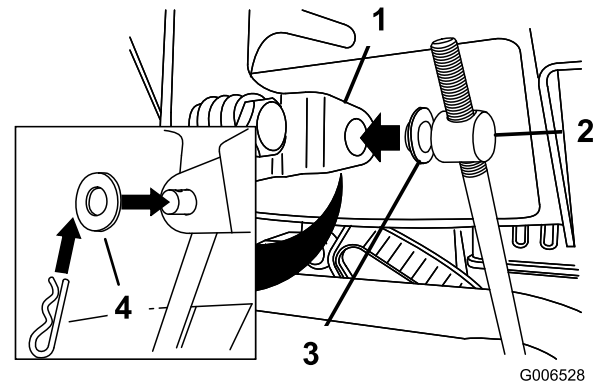

Figure 11
3. Remove the hairpin cotter and the outer washer from the trunnion on the upper end of the speed control rod (Figure 11).
Note: To make installation easier, leave the flat washer on the trunnion (Figure 11).
- Lift up on the speed control rod and insert the trunnion into the hole in the speed selector lever (Figure 11).
- B. Disconnect the trunnion from the speed selector lever (Figure 11).
C. Turn the trunnion downward (clockwise) on the speed control rod (Figure 11).
D. Connect the trunnion to the speed selector lever (Figure 11).
B. Disconnect the trunnion from the speed selector lever (Figure 11).
C. Turn the trunnion upward (counterclockwise) on the speed control rod (Figure 11).